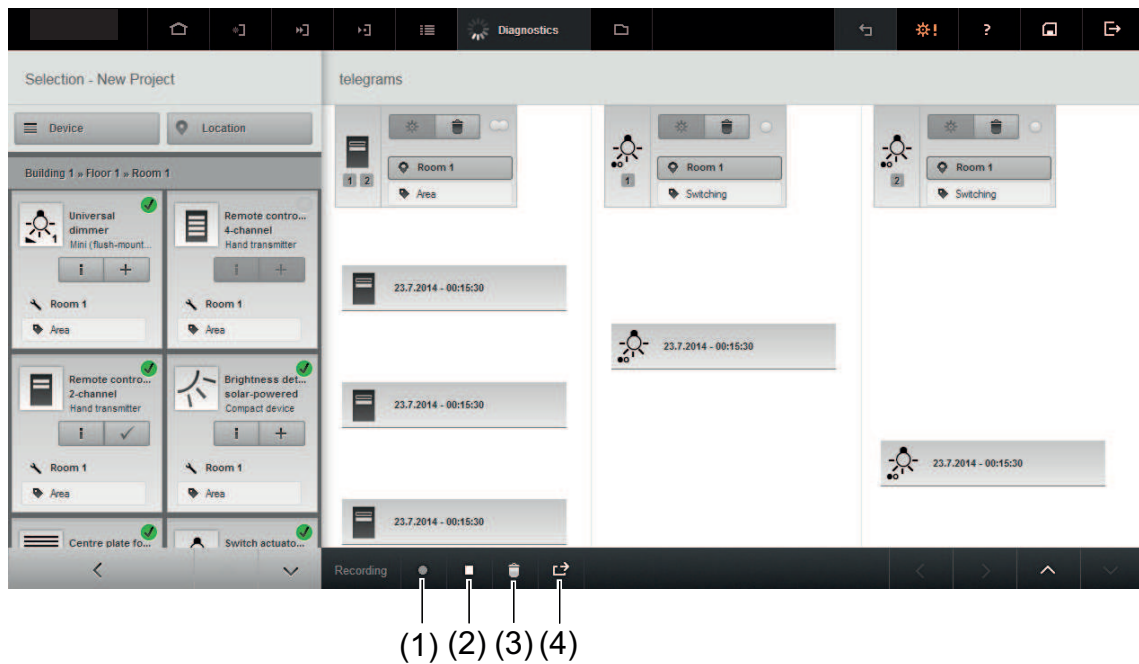

Figure 61: Diagnostics view - Telegram recording
- Select **Start** (Figure 61).
- Select **Clear** (Figure 61).
- Select **Export telegrams** (Figure 61).